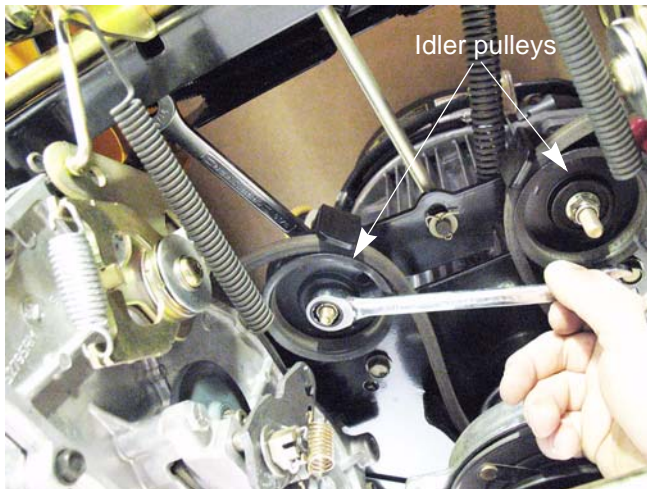

Figure 5.2
5. Loosen the idler pulleys using a pair of 9/16" wrenches. See Figure 5.2.